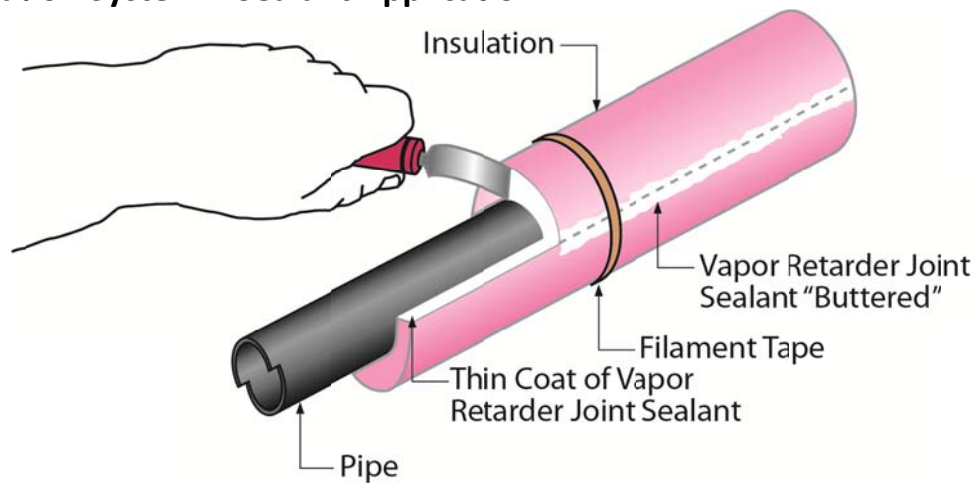

**Figure 2**
6. Vapor stops shall be used on either side of valves frequently removed for servicing, valve stations left exposed, or odd fittings, elbows, tees, etc. where the chance of moisture infiltration is high. (Figure 2, Appendix A)